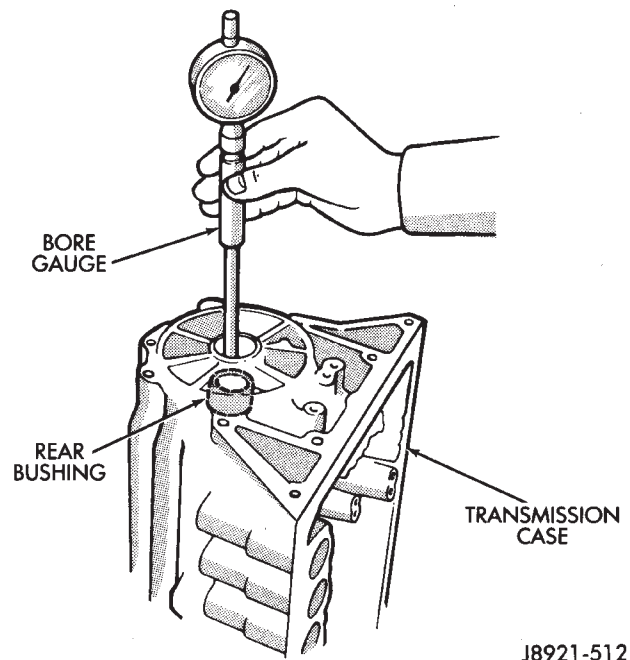

Fig. 48 Checking Rear Bushing Inside Diameter
(57) Measure inside diameter of transmission case rear bushing with bore gauge or inside micrometer (Fig. 48). Maximum allowable diameter is 38.18 mm (1.5031 in.). **Replace transmission case if bushing I.D. is greater than specified. Bushing is not serviceable.**